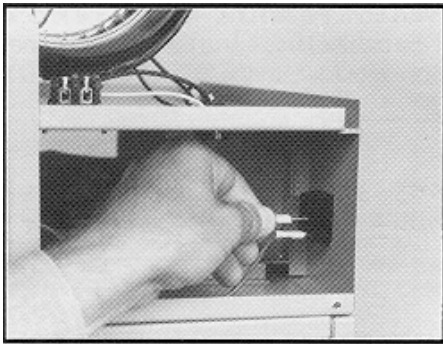

Figure 2-3
7. **Connect the two 42-inch leads**, from the unused switch terminals in the fan unit, through the plastic bushing, to terminals in the humidifier interlock circuit. (See Figure 2-3).
9. **Connect the two unused switch terminals** in the fan unit to terminals in the humidifier interlock circuit, using the knockout in the bottom of the fan unit. (See Figure 2-3 and Table 2-1)